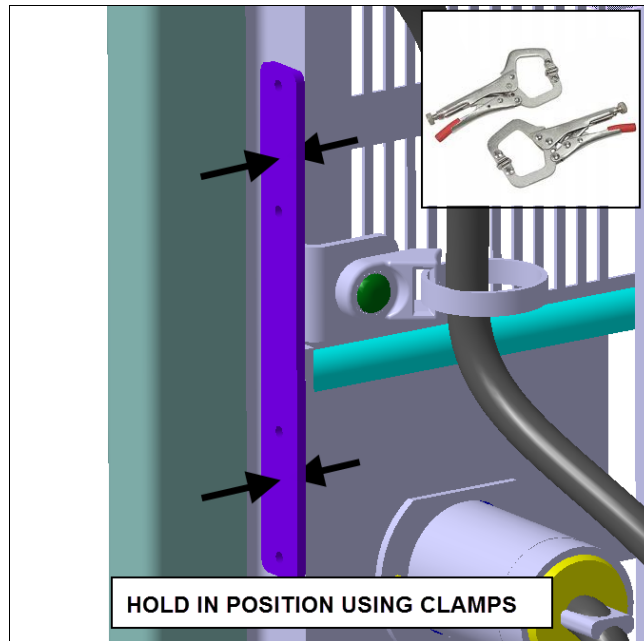

FIG.25 HOLDING PLATE IN POSITION
- 5) Hold the plate in position using lock pliers or c-clamps (Fig.25).